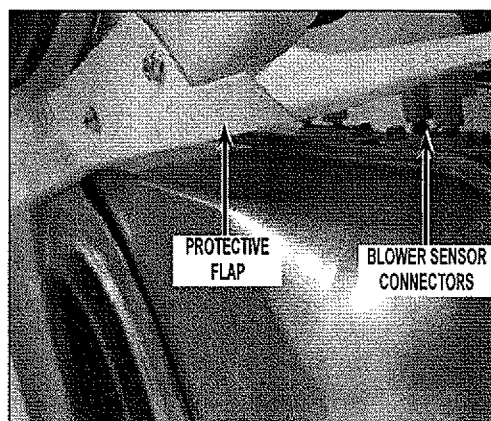

FIGURE 37
- At the bottom of the front bulkhead is a lower protective flap. Verify flap is laying above the blower sensor connectors as shown in Figure 37.